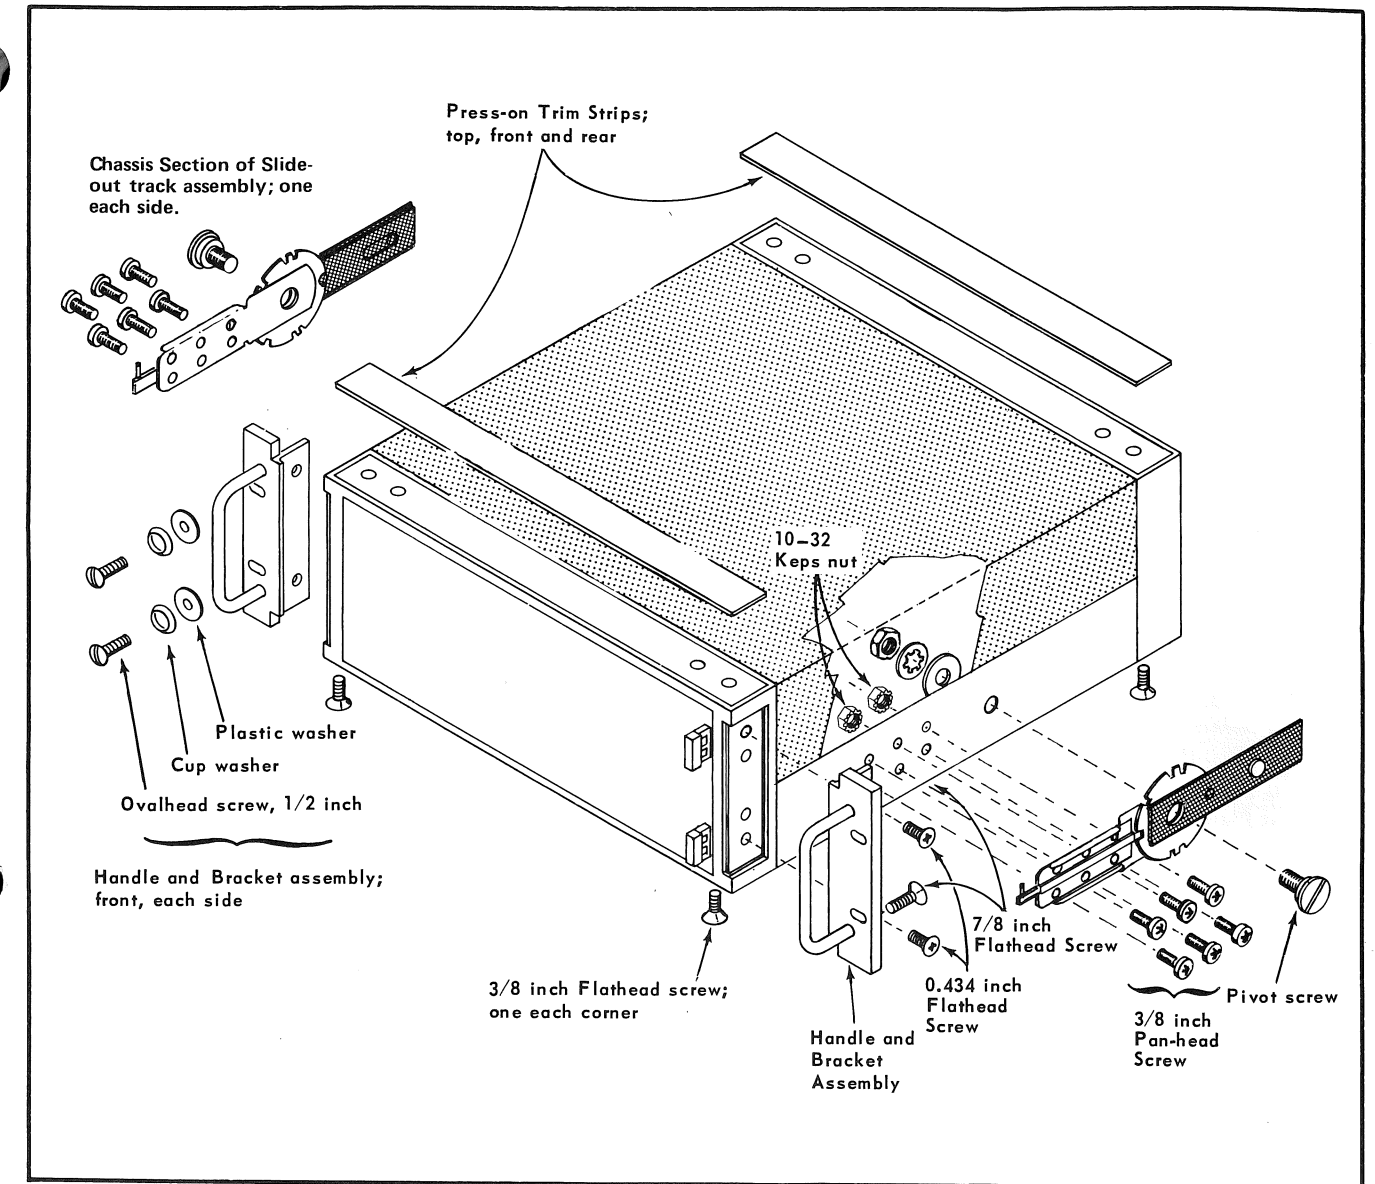
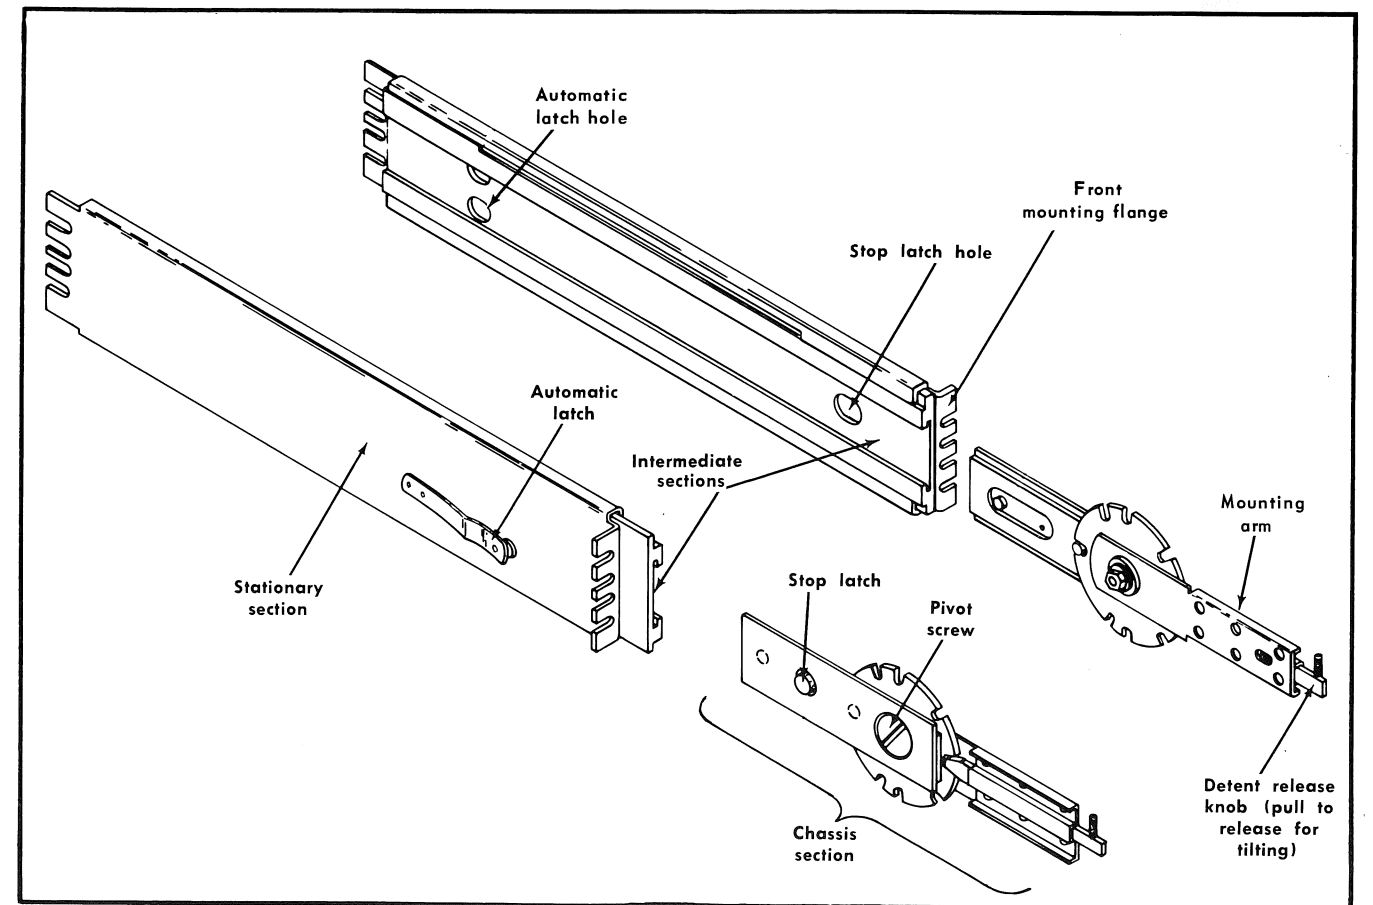

Fig. 2-4. Parts particular to the Type R287 and R288 (rackmount instrument).
Fig. 2-6. Slide-out track assemblies.
Certain parts must be removed from the Type R287 chassis before it can be converted to a benchmount instrument (Type 287). These parts are shown in Fig. 2-4 and can be removed as follows:
The following parts must be added to complete the conversion of a Type 287 to a rackmount instrument. Locations of parts to be attached to the chassis are shown in Fig. 2-4. Identification of the slide-out track assembly parts is contained in Fig. 2-6.
- Remove the nut and washers from the pivot screw of the right side chassis section (see Fig. 2-6). The right side
- Place the assembly against the chassis, inserting the pivot screw into the hole indicated in Fig. 2-4. Replace the flat washer, lock washer and nut on the pivot screw and
- Fasten the mounting arm to the chassis, using six 10-32 X 3/8 PHS screws and Keps nuts (see Fig. 2-4). Tighten the six nuts.